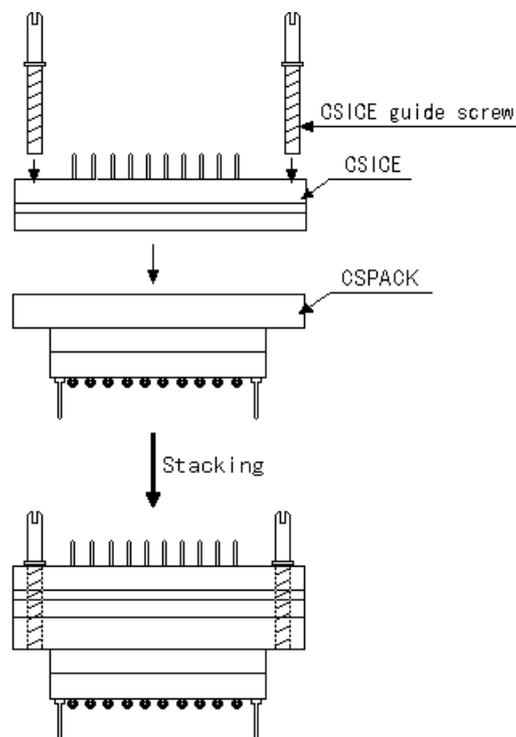

**Fig. 4 Explosion view of ICE cable connection**
- 1. Connection pads have to be provided at the end of the cable for connecting CSPACK flexible pins. Connection pads should be plated with hard gold over nickel. Please do not make through holes in the pads, as the flexible pins touch the pads. This will damage both the pads and the flexible pins. Fig 4 illustrates the explosion view of ICE cable and CSPACK assembly.
- 2. Contact force of 30 grams/flexible pin will be applied to the connection pads. So we recommend that a stiffener should be placed at on the cable for protecting pad area as shown in the Fig. 4.
- 4. Flexible pins are so designed that the optimum contact force will be realized with pin stroke of 0.8 mm. So 0.2 mm spacers as stand off have to be provided at the bottom side of the cable as shown in the Fig 4.